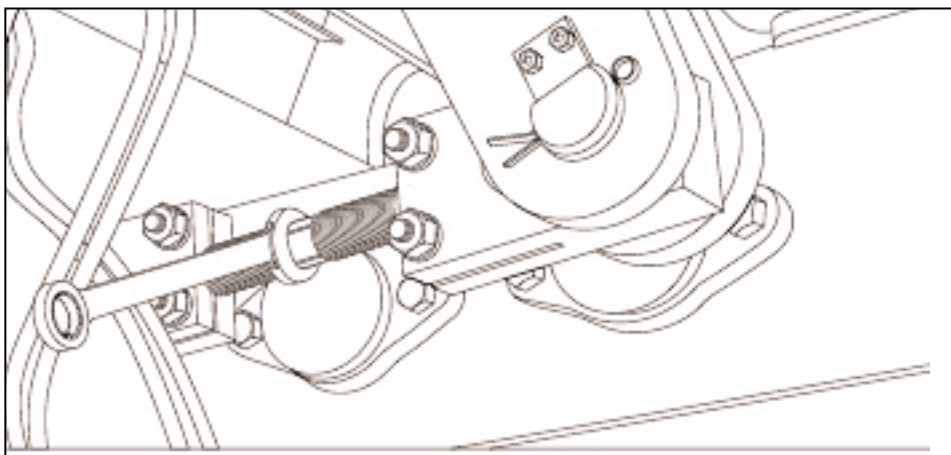

Figure 5.34 FEEDBOX LINKAGE.
- 5.7.12 If adjustment is necessary, adjust the feedbox linkages (see figure 5.34).